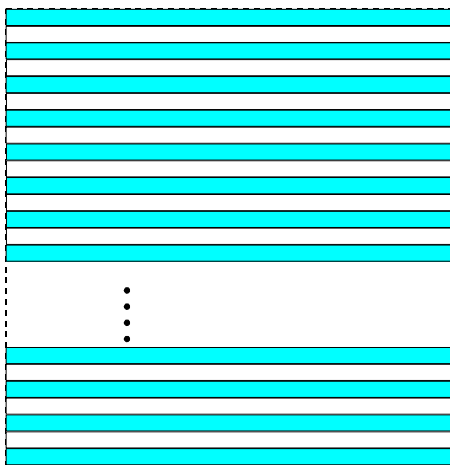

Fig. 61: Decimation of 2 (Mono Cameras)
- 2 for mono cameras: only every other row of the acquired frame will be transmitted out of the camera (Figure 61).